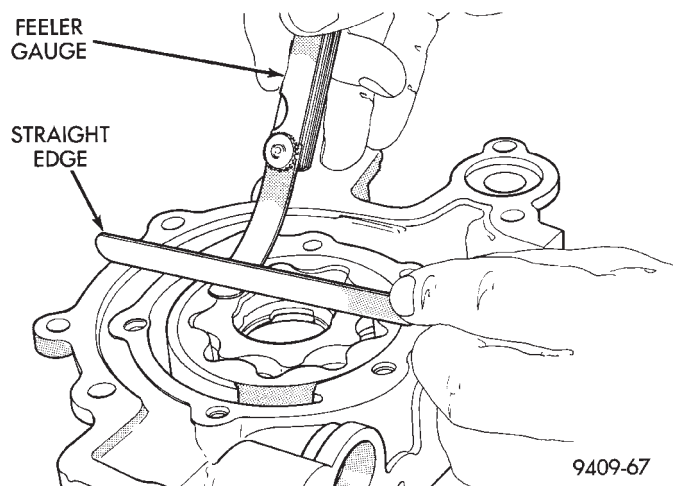

Fig. 108 Measuring Clearance Over Rotors
(7) Place a straightedge across the face of the pump housing, between bolt holes. If a feeler gauge of .102 mm (.004 inch) or more can be inserted between rotors and the straightedge, replace pump assembly (Fig. 108). **ONLY** if rotors are in specs.
(8) Inspect oil pressure relief valve plunger for scoring and free operation in its bore. Small marks may be removed with 400-grit wet or dry sandpaper.
(9) The relief valve spring has a free length of approximately 60.7 mm (2.39 inches) it should test between 18 and 19 pounds when compressed to 40.5 mm (1.60 inches). Replace spring that fails to meet specifications.
(10) If oil pressure is low and pump is within specifications, inspect for worn engine bearings, damaged or missing oil pick-up tube o-ring, clogged oil pick-up tube screen, clogged oil filter and stuck open pressure relief valve or other reasons for oil pressure loss.